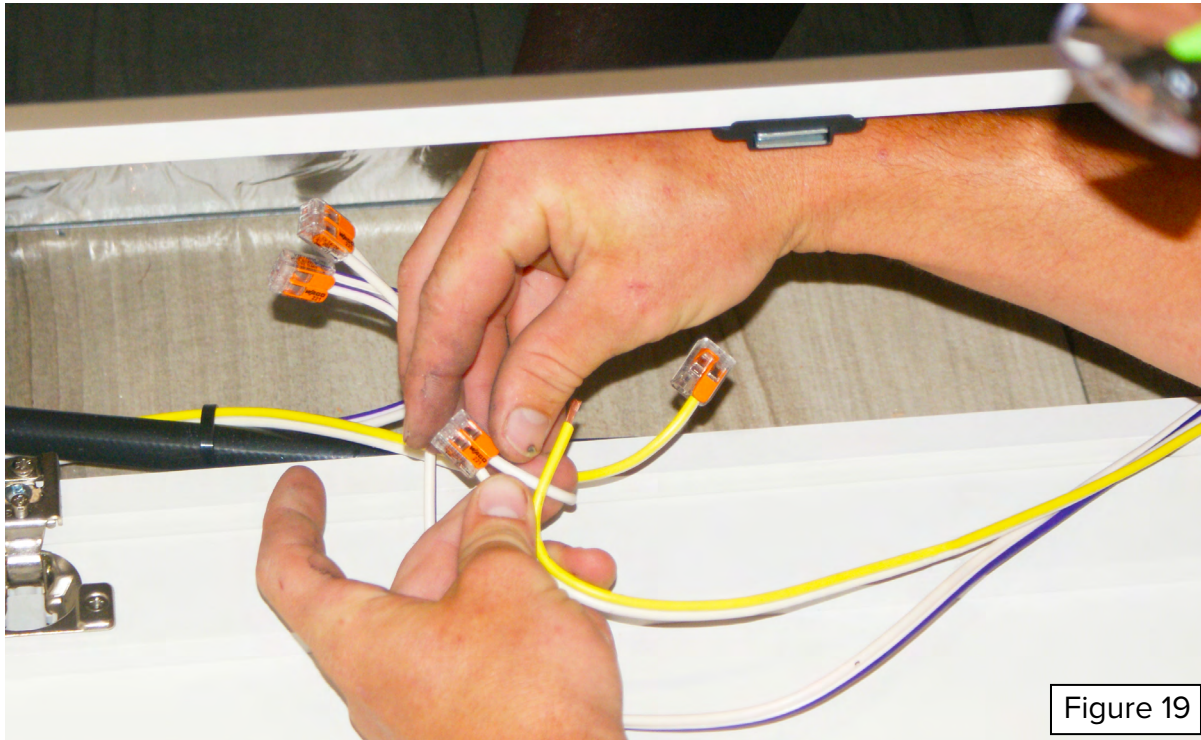

Figure 19
23. Reconnect the electrical wiring to the furnace using the original WAGO connectors (Figure 19).